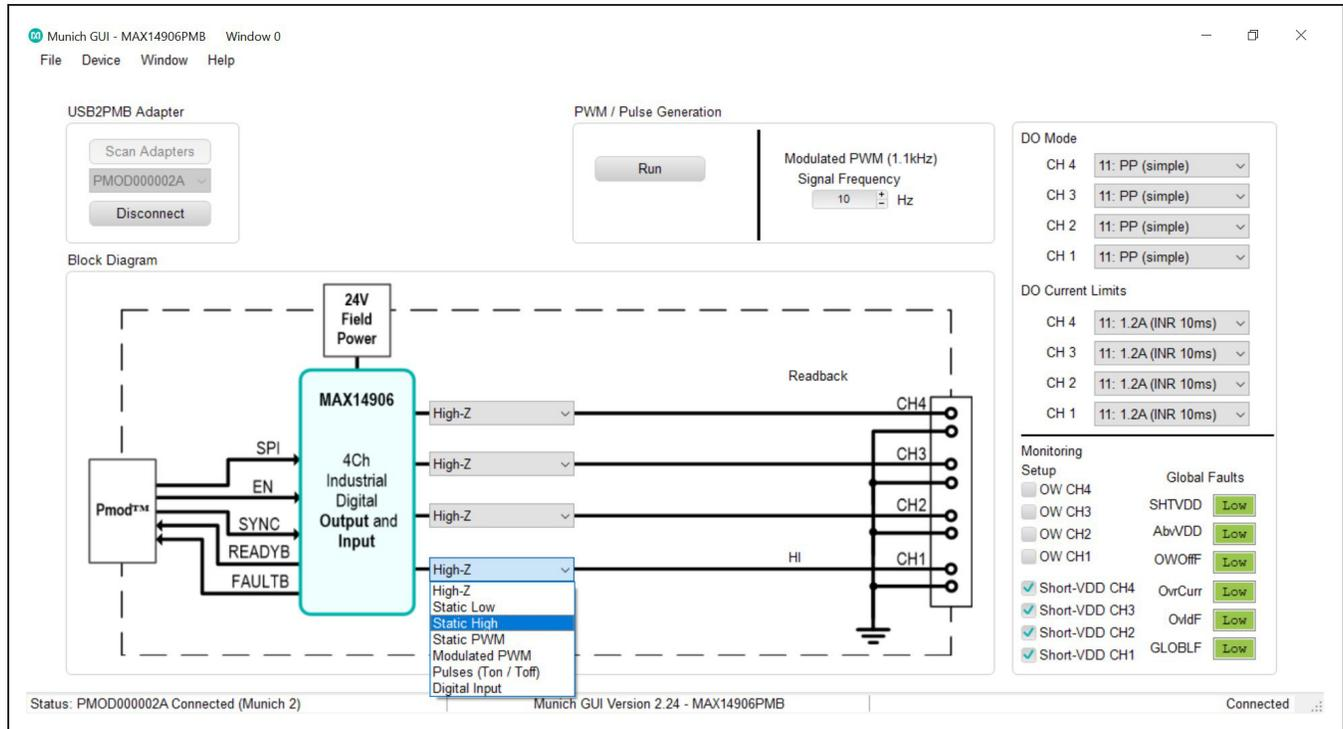

Figure 7. Digital Output Operation Mode Configuration
- 10) Connect the DOI1 (pin 8) and GND (pin 7) from the J2 connector to an oscilloscope or digital multimeter. The MAX14906PMB# is configured in High-Impedance mode (**High-Z**) by default after power-up. In the **DO Mode** section, the digital output type selected by default is **PP (Simple)**, simple push-pull mode. Using the CH1 drop-down menu, drive DOI1 high by setting the signal type from the default **High-Z** to **Static High**. Observe that SLED1 LED (green) is turned on, the Munich GUI shows **HI** on the **Readback** column for CH1 as shown in Figure 7, and the multimeter or oscilloscope shows a 24V DC signal.
The CH1-CH4 drop-down menus allow the user to configure the operation mode for each DOI channel. When operating as a digital output, the DOI\_channel can be driven to **Static Low**, **Static High**, **Static PWM**, **Modulated PWM**, or **Pulses (Ton/Toff)** as shown in Figure 7. When configured to **Static Low**, the DOI\_channel is driven to 0V, and the **Readback** column of the corresponding channel is updated to **LO**. When configured to **Static High**, the DOI\_channel is driven to  $V_{DD}$ , and the **Readback** column is updated to **HI**. The PWM modes and Pulse mode are discussed in the PWM Generation and Pulse Mode sections.